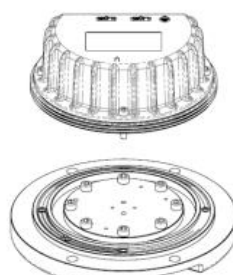

Figure 5-6
- Separate the upper cover and inner cover of the lighting fixtures (Figure 5-6).